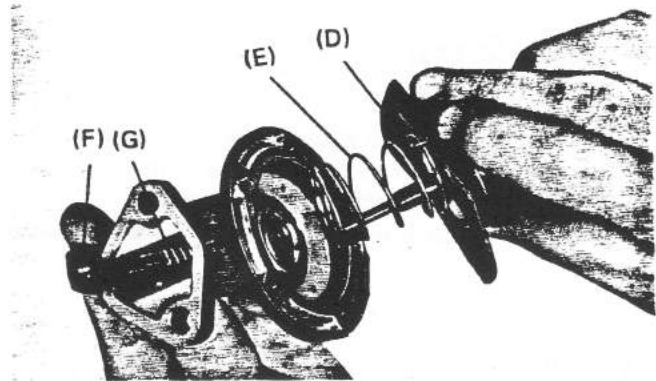

Fig. 173
4. As shown in Fig. 174, pull out the pin, and remove the rocker arm (G) and rocker arm spring (F) from the body. (Fig. 173 and 174)